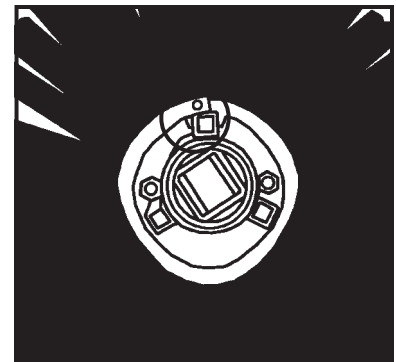

FIGURE 3
13. Place a wafer onto the core with the drive pins between the tube (Shown in Figure 3 for proper placement and Figure 4 for improper placement).